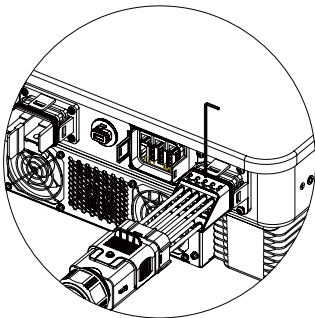

Figure 5-14 Thread into cord end terminal (optional step)
4) Connect the prepared tubular terminal to the AC port. After confirming that it is installed properly through the observation hole, tighten the screws with a hexagonal wrench (torque $2\sim 3\text{N}\cdot\text{m}$), as shown in Figure 5-14: